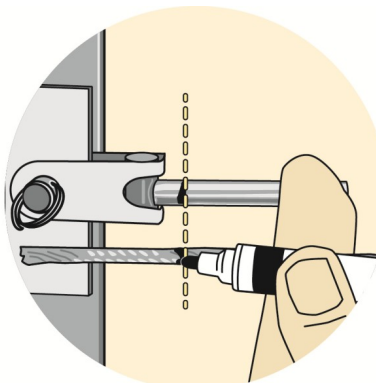
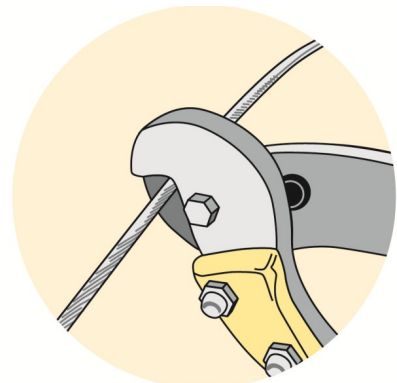

Fig 14
Fig 15
- b) Pull all slack out and hold cable adjacent to the Classic Jaw Fitting and mark the cable where it matches mark on the fitting (Fig. 14). Cut cable to its final length (Fig. 15).